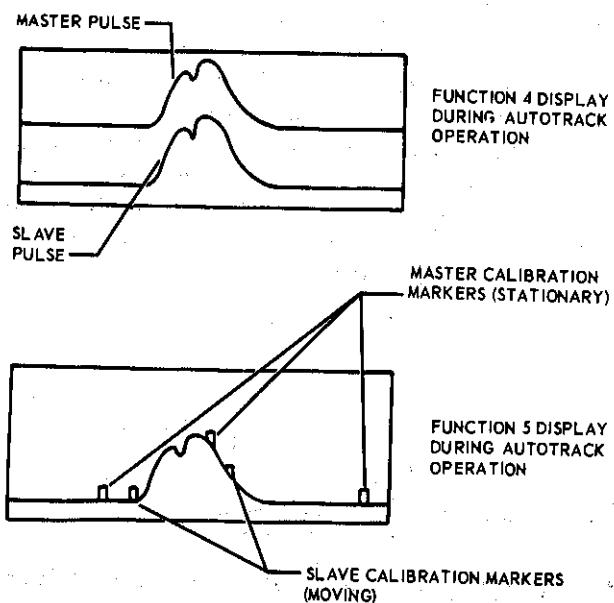

Figure 4-59. Automatic Tracking Operation
2. If the presentation in function 4 and/or 5 is desired, the operator need only select these functions using the FUNCT switch. A typical function 4 and 5 presentation during autotrack operation is shown in figure 4-59.